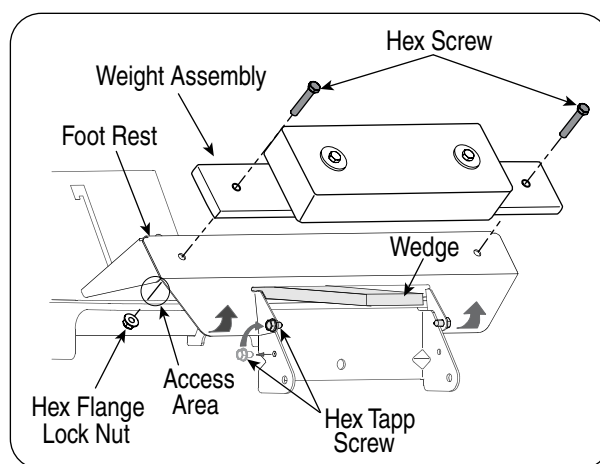

Figure 2
Because the openings between the foot rest and the tractor frame (Refer to Figure 2) provide only limited access for installing the hex flange lock nuts, it is recommend that you enlarge these access areas by temporarily raising the front of the foot rest. To raise the front of the foot rest, proceed as follows:
- Remove the two hex tapp screws that secure the front tabs of the foot rest to the front bracket of the tractor frame. Refer to Figure 2.
- Grasp the front of the foot rest and lift it upward. Use one (or both) of the following methods to hold the front of the foot rest in the raised position while installing the weight. See Figure 2.